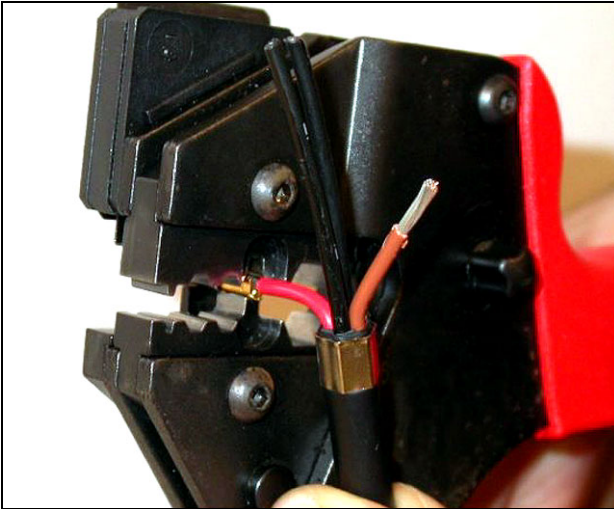

figure 45.14: Crimping a socket contact (2)
- 12 Put one of the bare, copper wires into the contact area of the socket contact. Close the crimping tool to crimp the socket contact onto the copper wire (refer to figure 45.14).